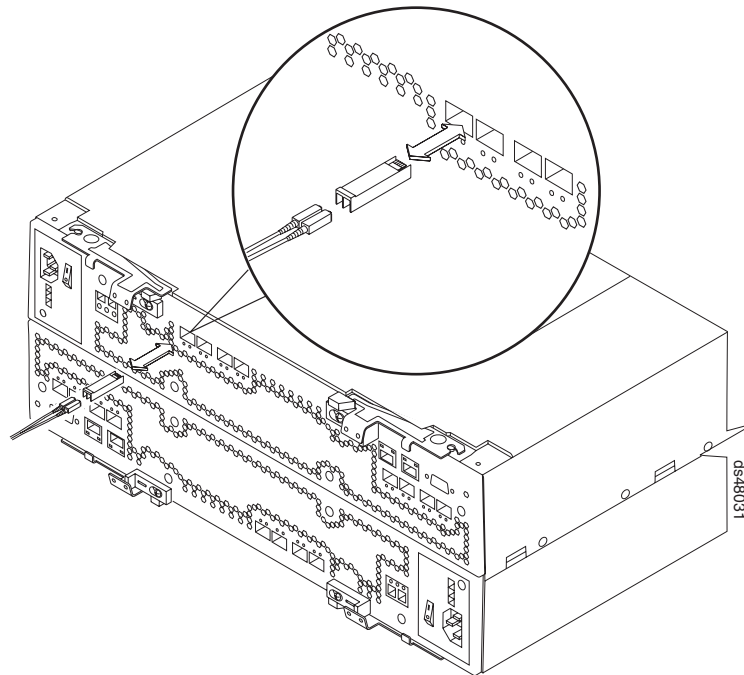

Figure 31. Connecting fiber-optic cable to SFP
2. Connect the fiber-optic cable to the installed SFP, as shown in Figure 31.